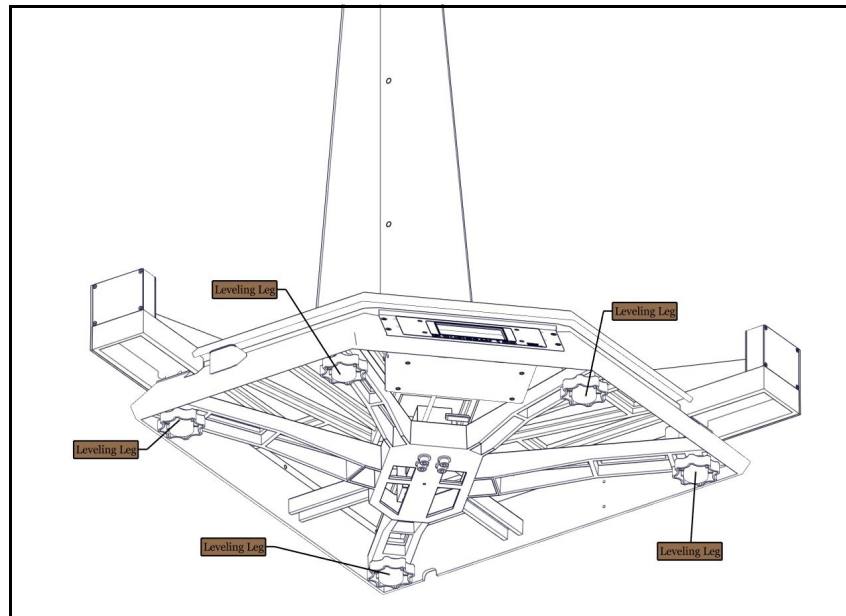

Figure 9
1. Locate the five leveling legs under the base. Their positions are indicated by the pointers in **Figure 9** below.